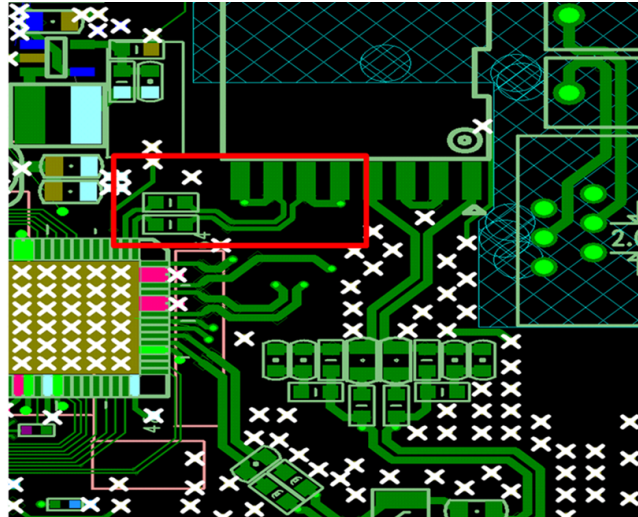

Figure 4.9: Feedback Trace Routing between Transformer and MT3302.
- Pin no.1 and 3 of MT3302 should be connected to the transformer(T3), the layout trace width should be under **12mil** and the gap between the trace and ground plane should be under **12 mil** as shown in Figure 4.9.